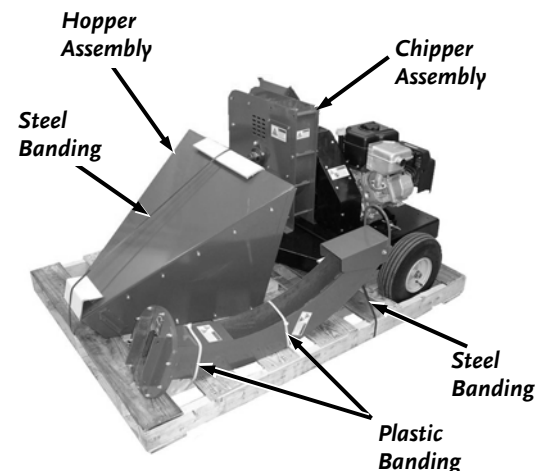

Figure 6
5. Carefully cut the Steel banding holding the machine and Hopper Assembly to the pallet (**Figure 6**).